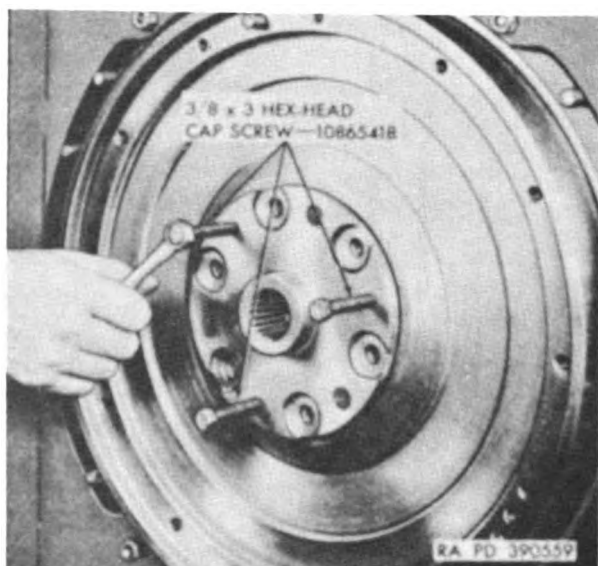
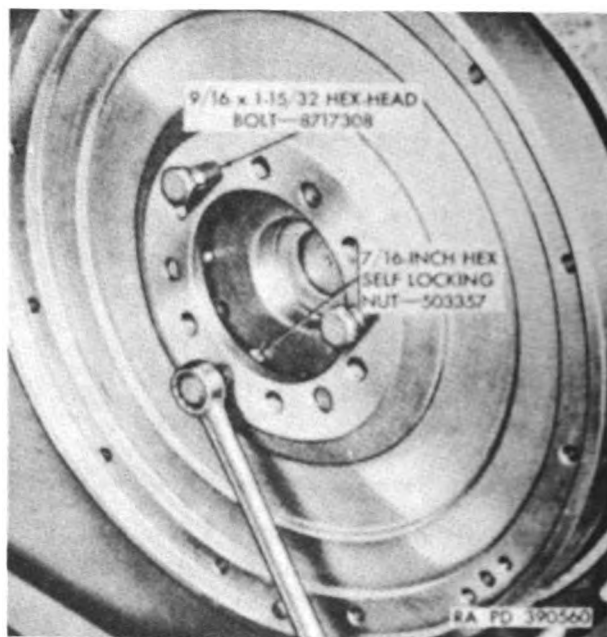

Figure 55. Removing transmission drive hub assembly (model AOSI-895-5 engines only).
Figure 56. Removing flywheel (model AOSI-895-5 engines only).
- (b) Remove transmission drive hub assembly using three $\frac{3}{8}$ -24 x 3 hex-head cap screws 10865418 (fig. 55).
(2) Remove flywheel.
- (b) Using three of the hex-head bolts removed in step (1)(a) above as jackscrews, pull the flywheel from the crankshaft dowel pins by screwing bolts into holes in flywheel as shown in figure 56.
- (c) Pull flywheel as far as threads on bolts will allow. Remove bolts far enough to place $\frac{1}{16}$ -inch nuts, or other suitable blocks, between ends of bolts and crankshaft flange as shown in figure 56.
(1) Remove torsion damper assembly.